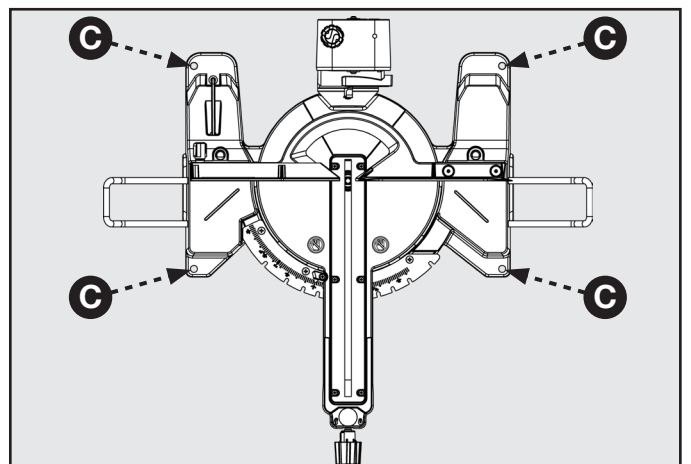

FIGURE 5
**⚠ WARNING:** To ensure safe and accurate operation, this saw should be mounted to a stable and level surface such as a workbench. To mount the tool to a stable surface, refer to Figure 5 and do the following:
1. Locate the four mounting holes in the base of the saw (C).